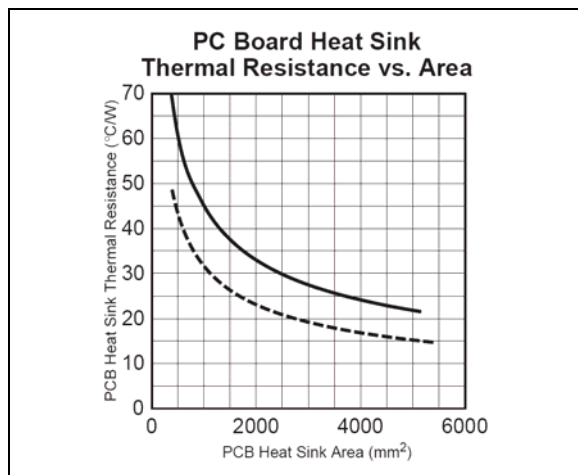

FIGURE 4-4: Excerpt from the LDO Book.
- $R_{\theta_{CA}} = 53^{\circ}\text{C}/\text{W}$ (as read from Figure 4-4)